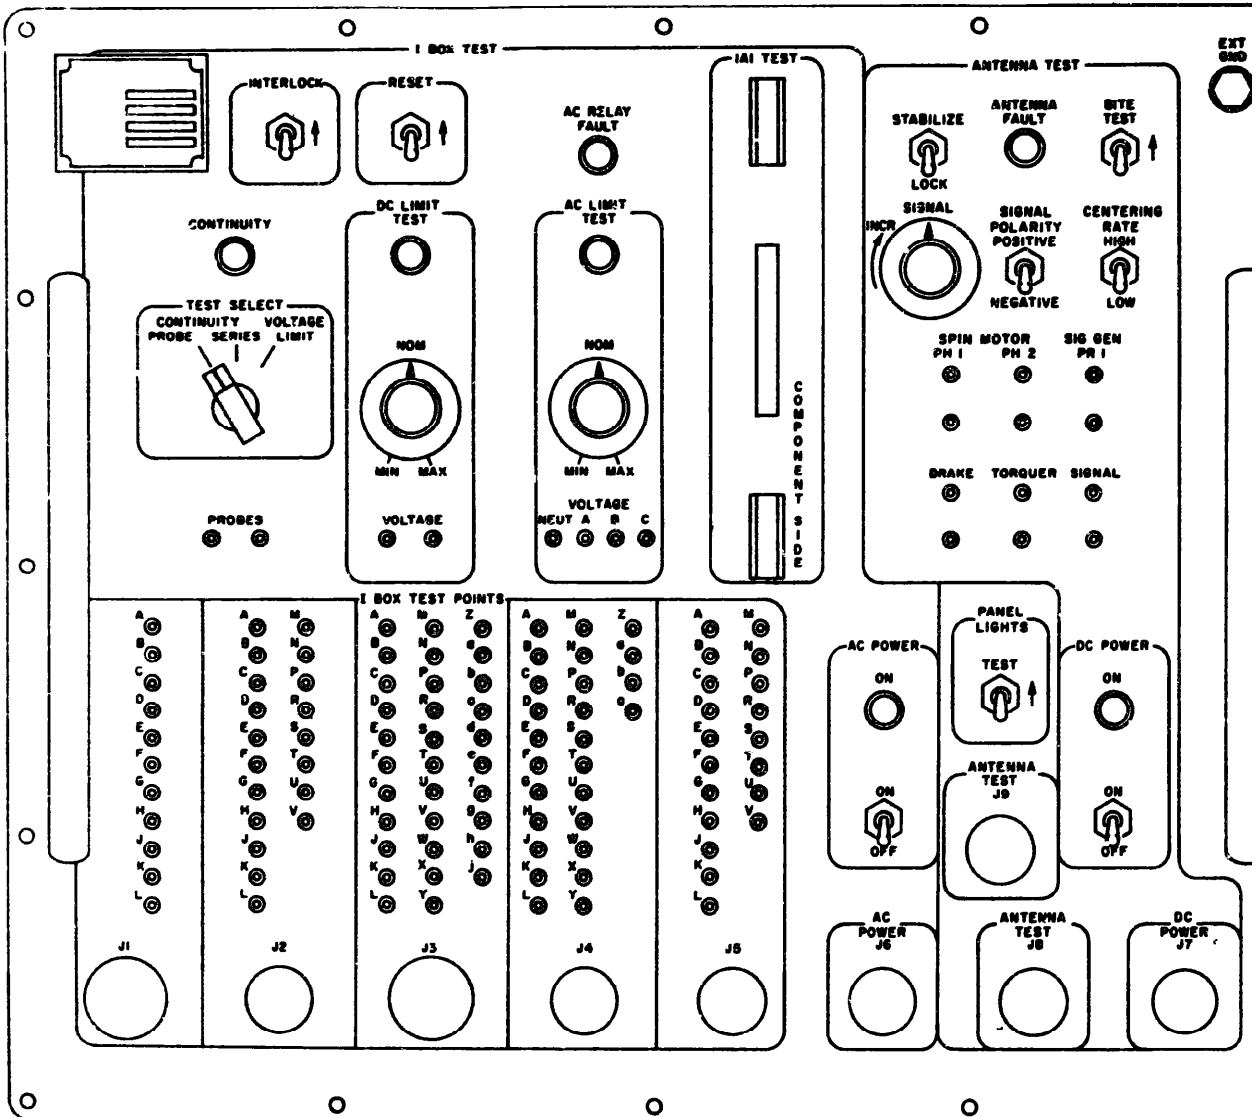

Figure 7-2. Interface Test, Antenna Driver TS-2974/APS-94D, controls, indicators, and jacks.
7-3. Interface Test, Antenna Drive TS-2974/APS-94D Controls, Indicators, and Jacks (fig. 7-2)
Table 7-1 lists the Interface Test, Antenna Drive TS-2974/APS-94D controls, indicators, and jacks and gives a brief functional description of each item. The controls, indicators, and jacks are illustrated in figure 7-2.
- a. Set the AC POWER switch to OFF (fig. 7-2).